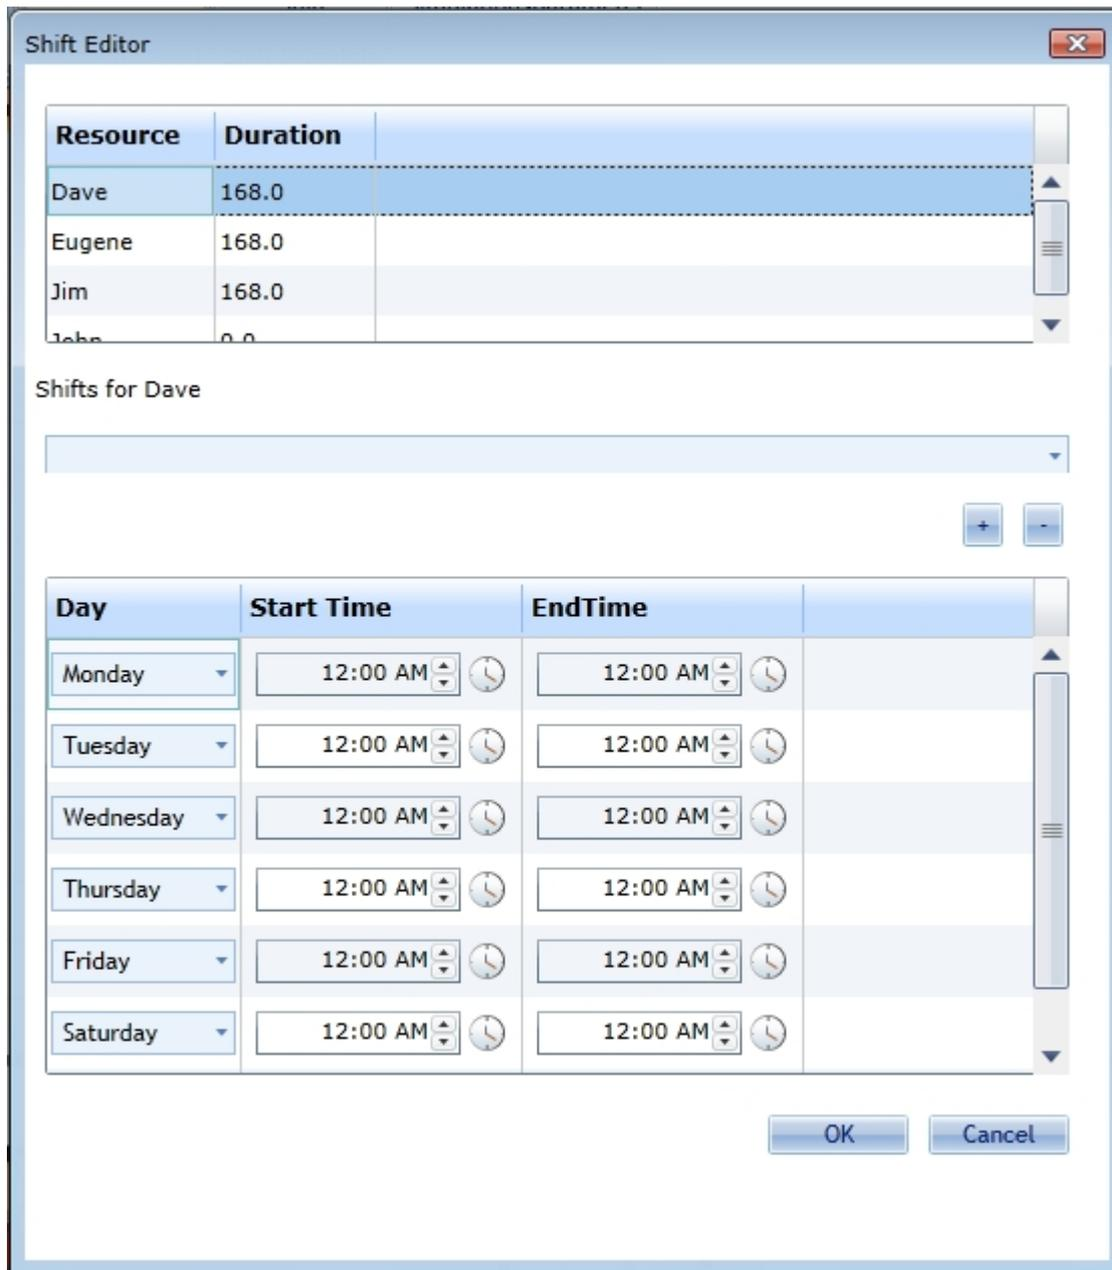

Figure 2: Shift editor for resources (Full Week preset)
- Full week: The resource works 24 h each day of the week (see figure 2)